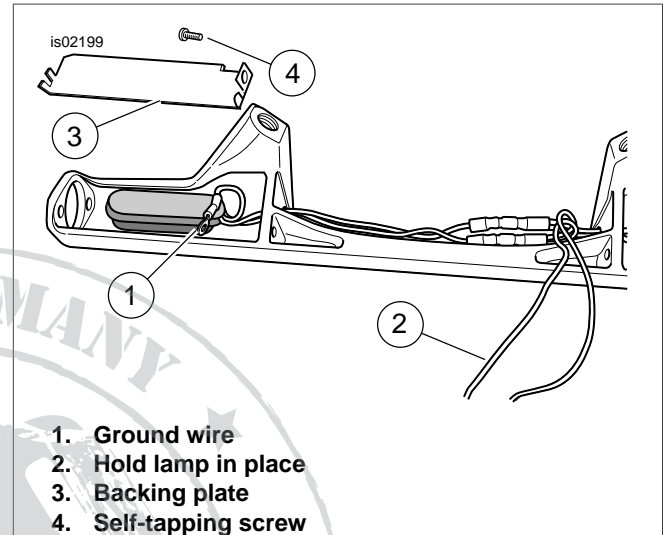

Figure 1. Remove Backing Plate
4. See Figure 1. For each end of new directional bar, remove self-tapping screw that holds corner of backing plate and ground wire in place and remove backing plate.